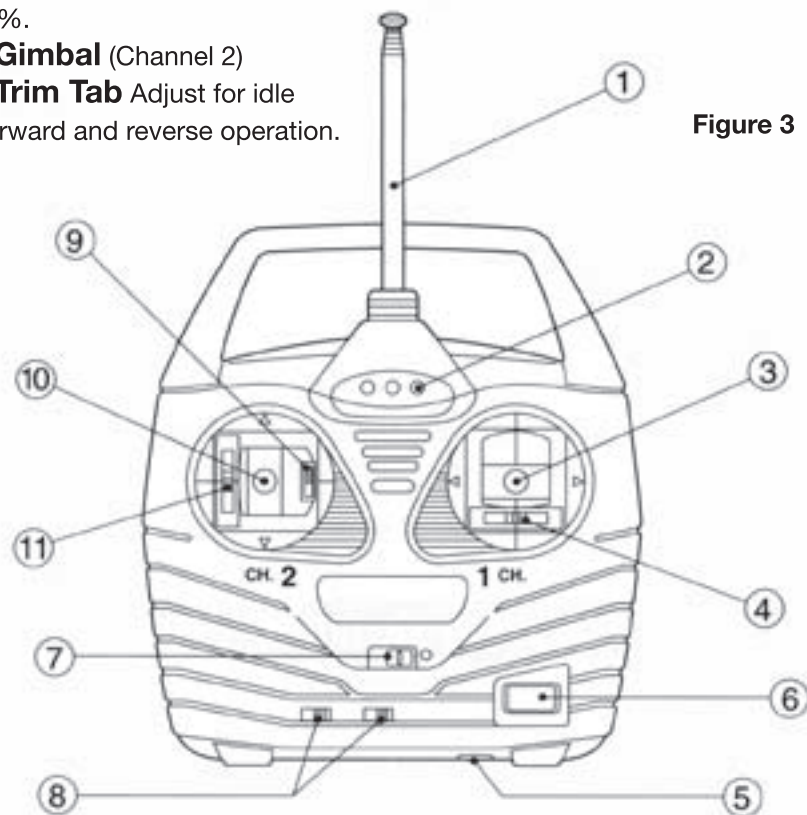

Figure 3
- \* The transmitter has servo reversing switches that allow you to change the direction of the servos to fit many different applications (see figure 3).